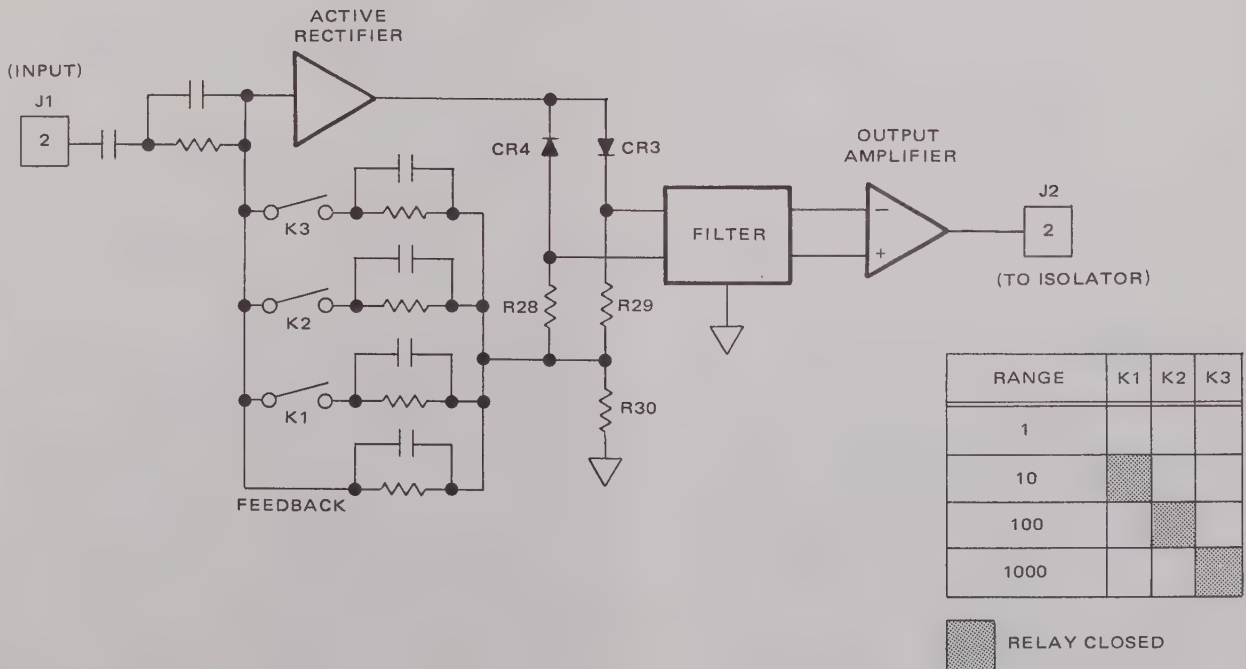

Figure 4.3 - Averaging AC Converter
4.12 The averaging converter shown simplified in figure 4.3, consists of an active rectifier/range circuit, a filter, and an output amplifier. The active rectifier is an operational amplifier with two polarity sensitive feedback paths; the feedback path consisting of CR3 and R29 conducts current when the output of the amplifier is positive and the CR4, R28 path conducts when the amplifier output is negative. The two currents are recombined across resistor R30, and the resulting ac signal is fed through the range feedback network to the input summing node of the operational amplifier. Two half-wave signals of opposite polarities are developed across resistors R28 and R29 for each full-wave input. These signals are filtered and amplified as a dc level by the differential output amplifier.